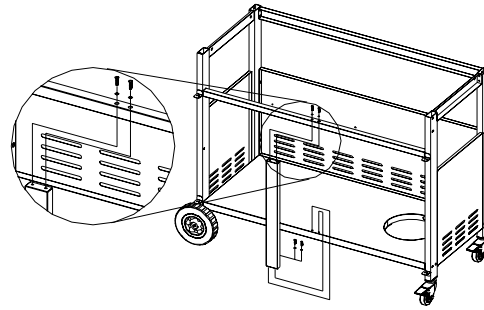

Figure 8
3. Attach the cart front support to the front cart frame beam and bottom panel using (4) 5/32 x 3/8" Phillips head screws and (4) 5/32" flat washers. (Fig.8)